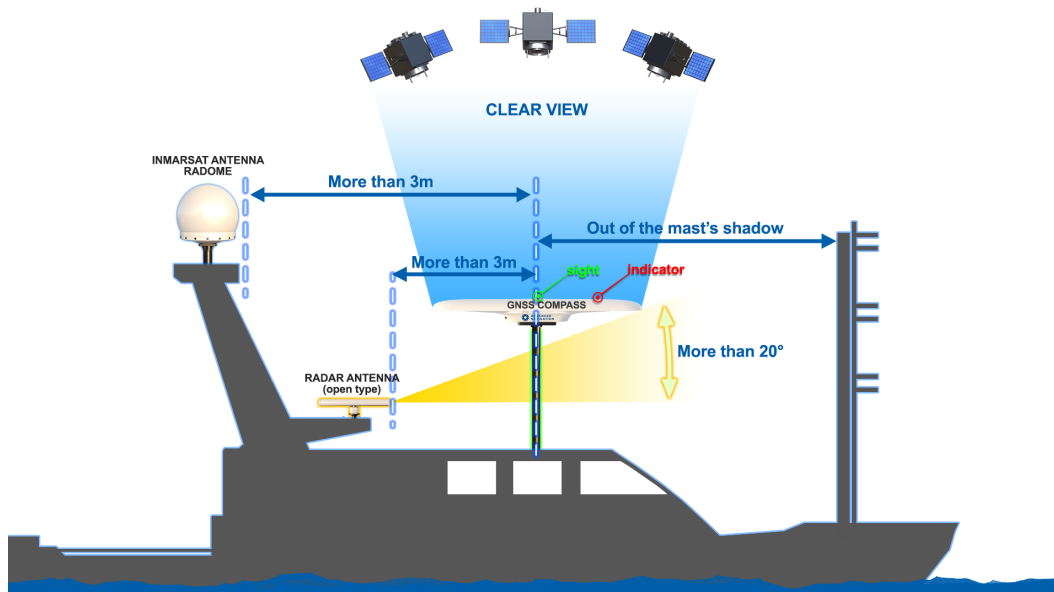

Figure 2: GNSS Compass ideal mounting location
1. Install the GNSS Compass in an area where it has a full clear view of the sky and away from strong radio transmission sources as shown in Figure 2: GNSS Compass ideal mounting location